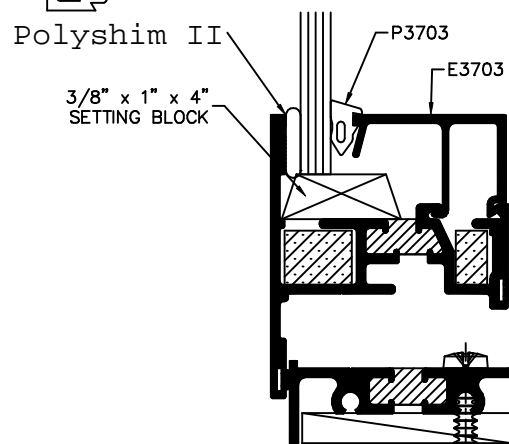

FIGURE 5B
- B. USE E3703 FOR 1/4" GLAZING (SEE FIGURE 5B).